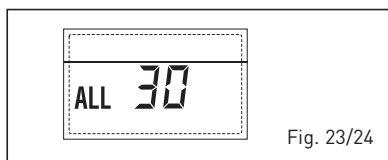

Fig. 23/24
- **ANOMALIA Sonda MANDATA CASCATA "ALL 31" (fig. 23/25)**